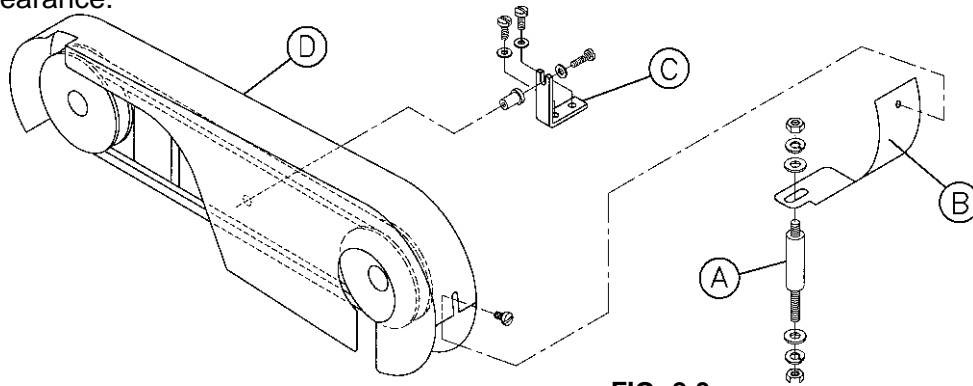

FIG. 2-3
After aligning belt and pulleys, install the belt guard (see figure 2-3) starting with the standoff (A) and bracket (B) then add bracket (C) and belt guard (D). Centralize and adjust height and test for proper clearance.